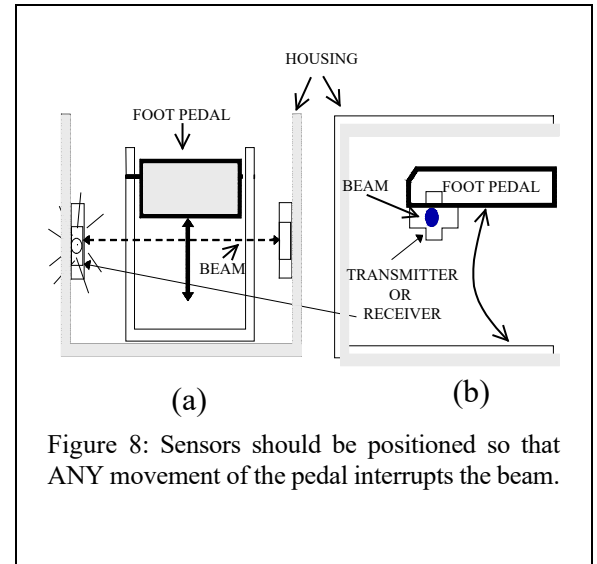

Figure 8: Sensors should be positioned so that ANY movement of the pedal interrupts the beam.
4. Inside the foot switch housing (Figure 8), position the Transmit Sensor and the Receive Sensor on opposite sides of the foot switch. Do not position the sensors on the sides of the foot switch.